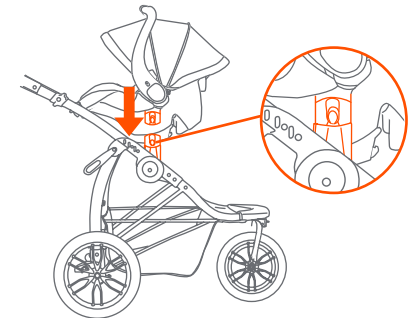

Fig. 22
22) • Attach the car seat by lining up the seat anchors on the side of the car seat with the anchors on the stroller frame and push them together until they lock securely (Fig. 22).